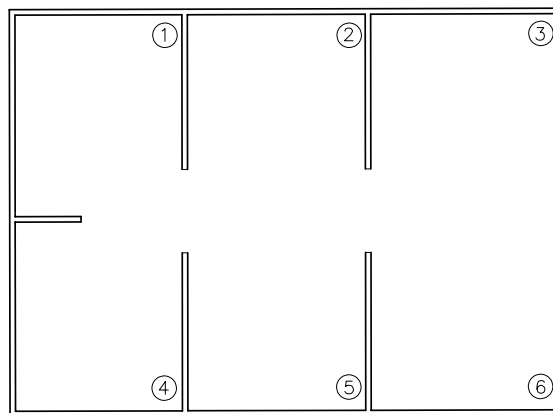

Figure 16-11 Floor plan drawing for Example 2
1. Draw the floor plan shown in Figure 16-11 (assume the dimensions).